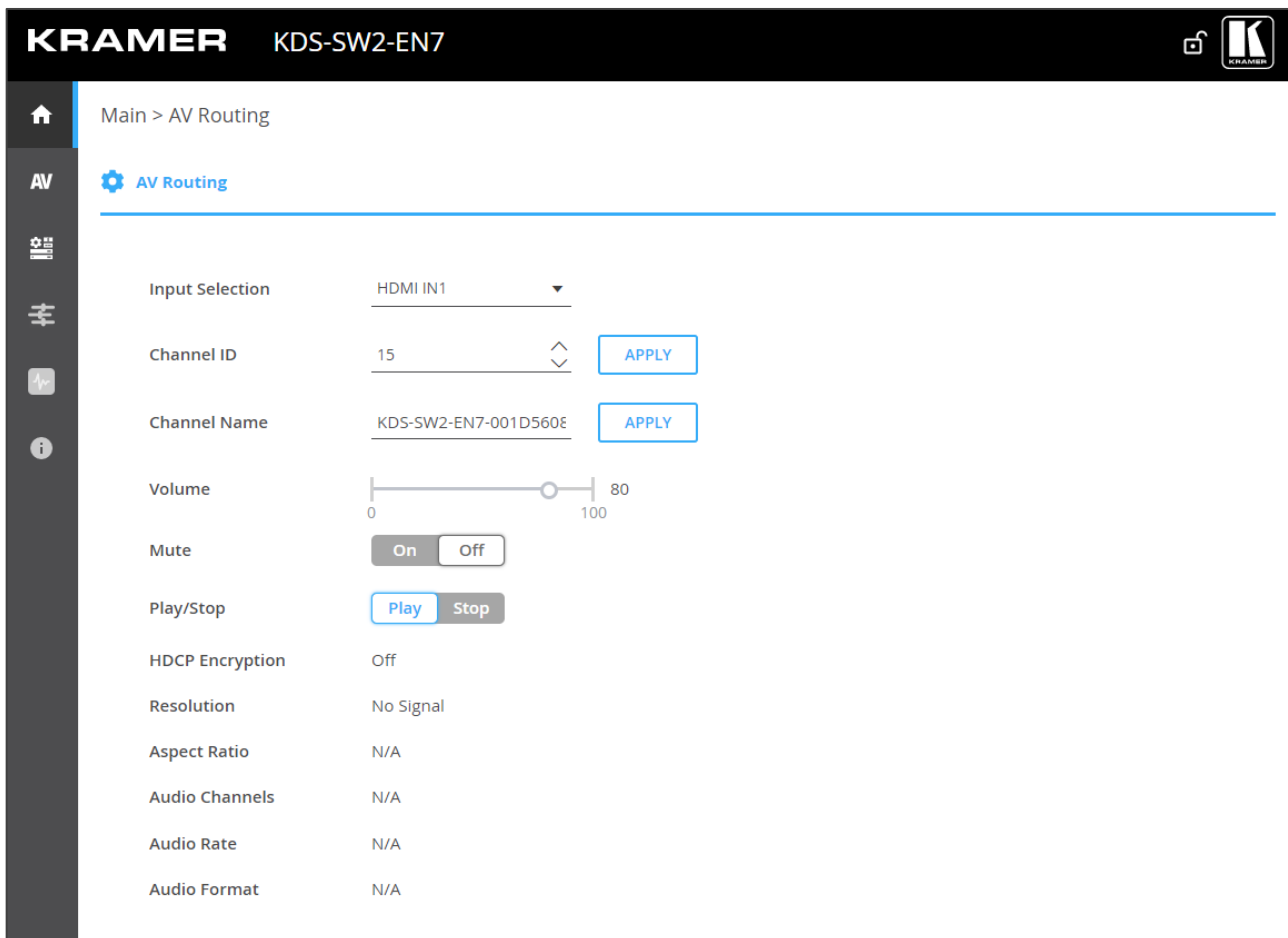

Figure 12: Controller Application Page with Navigation List on Left
1. In the Navigation pane, Select **Main>AV Routing**. The AV Routing page appears (see Figure 12).